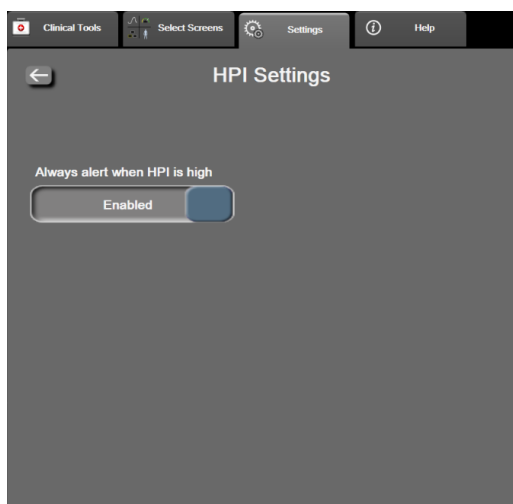

Figure 14-4 Parameter settings - Hypotension Prediction Index
- 5 Touch the **Always alert when HPI is high** toggle button to switch to **Disabled**. See figure 14-4.